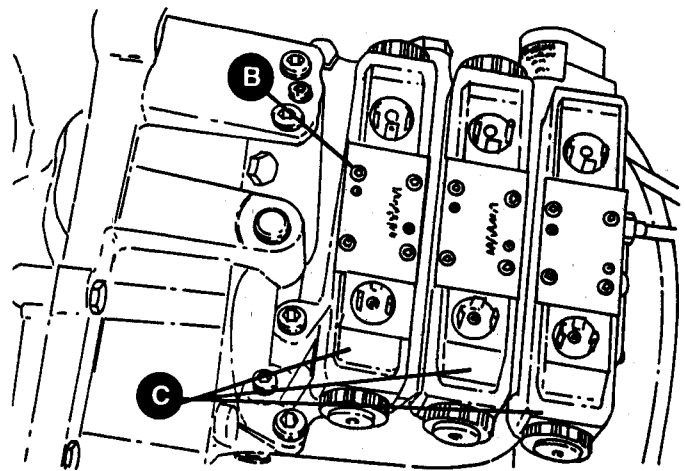

Figure 9.
5. Separate the torque converter pump components. Remove and discard oil seal (60) from pump housing.
6. Remove twelve capscrews (B, Figure 9). Remove the three solenoid valves (C).